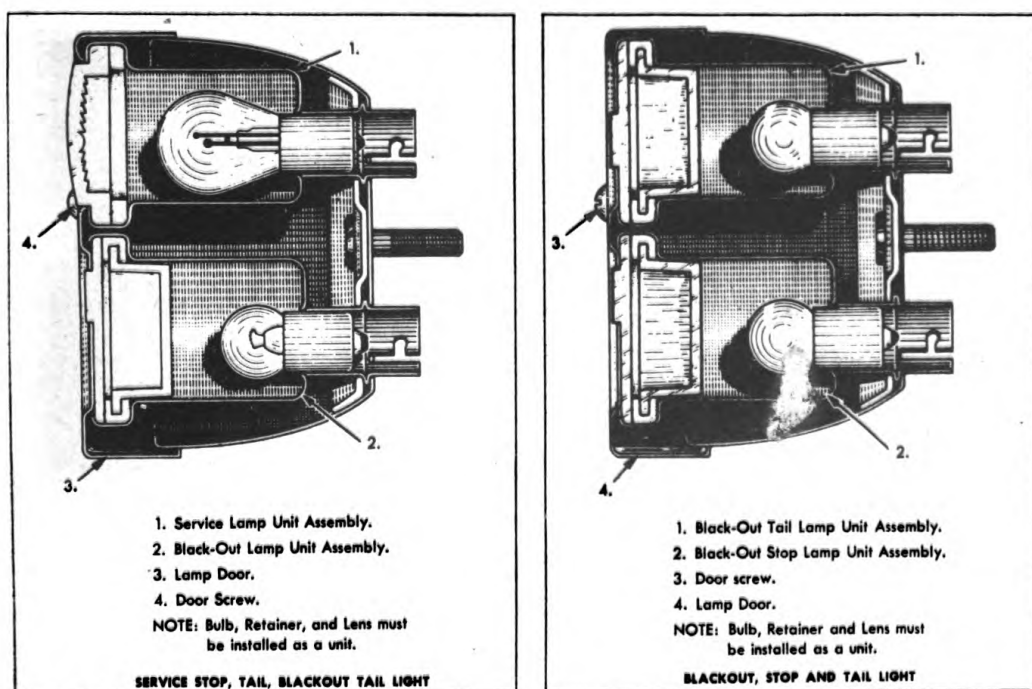

FIGURE 52. SECTIONAL VIEW OF LIGHTS
c. To insure the accuracy of construction necessary to produce this effect, the bulb is soldered to the lens retainer and the lens and filter are crimped to the retainer to form a complete unit. When the bulb is burned out it is necessary to replace the complete bulb unit (Figure 52).